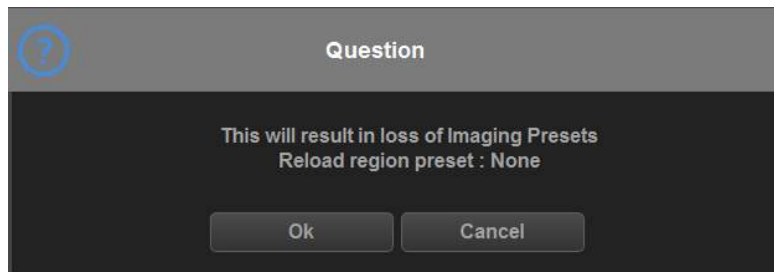

Figure 6-2. Question
- The window below will display after the region being selected. Select "Ok", refer to Figure 6-2 on page 6-4.